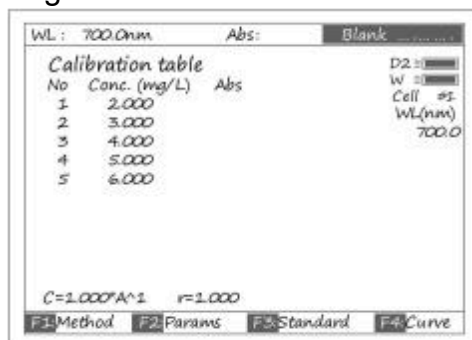

Fig 32
Press **【ESC/STOP】** to finish inputting and to exit (Fig 32).
3.3.2 Push the blank cuvette into the Reference Light Path and Main Light Path, press **【0Abs/%100T】**, the instrument will step to the wavelength and blank. See Fig 32.